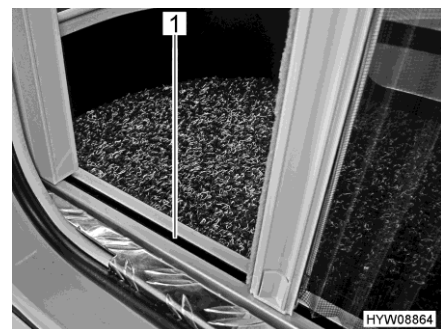

Fig. 19 Insect screen (bottom guide)
- ▷ Hold holding bar with both hands when closing or opening. This reduces the risk of the insect screen getting stuck in the guides (Fig. 19,1).